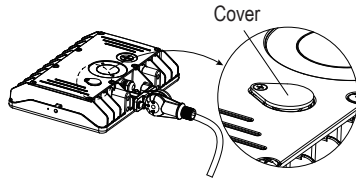

Figure 1
Step 1: With the fixture wired to power, locate the CCT adjust button, on the back of the fixture. (Figure 1)